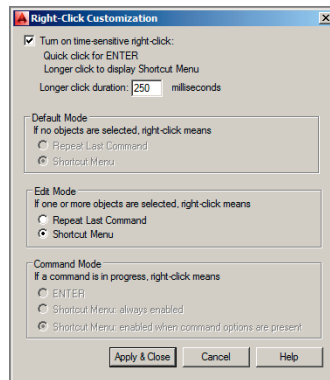

FIGURE 2.8 Turning on Time-Sensitive Right-Click for more efficient drawing
- Open the Application menu and click the Options button at the bottom. Click the User Preferences tab in the Options dialog box that appears. Under the Windows Standard Behavior section, select Right-Click Customization and then, in the new dialog box, select Turn On Time-Sensitive Right-Click (see Figure 2.8). Click Apply & Close, and then click OK in the Options dialog box.